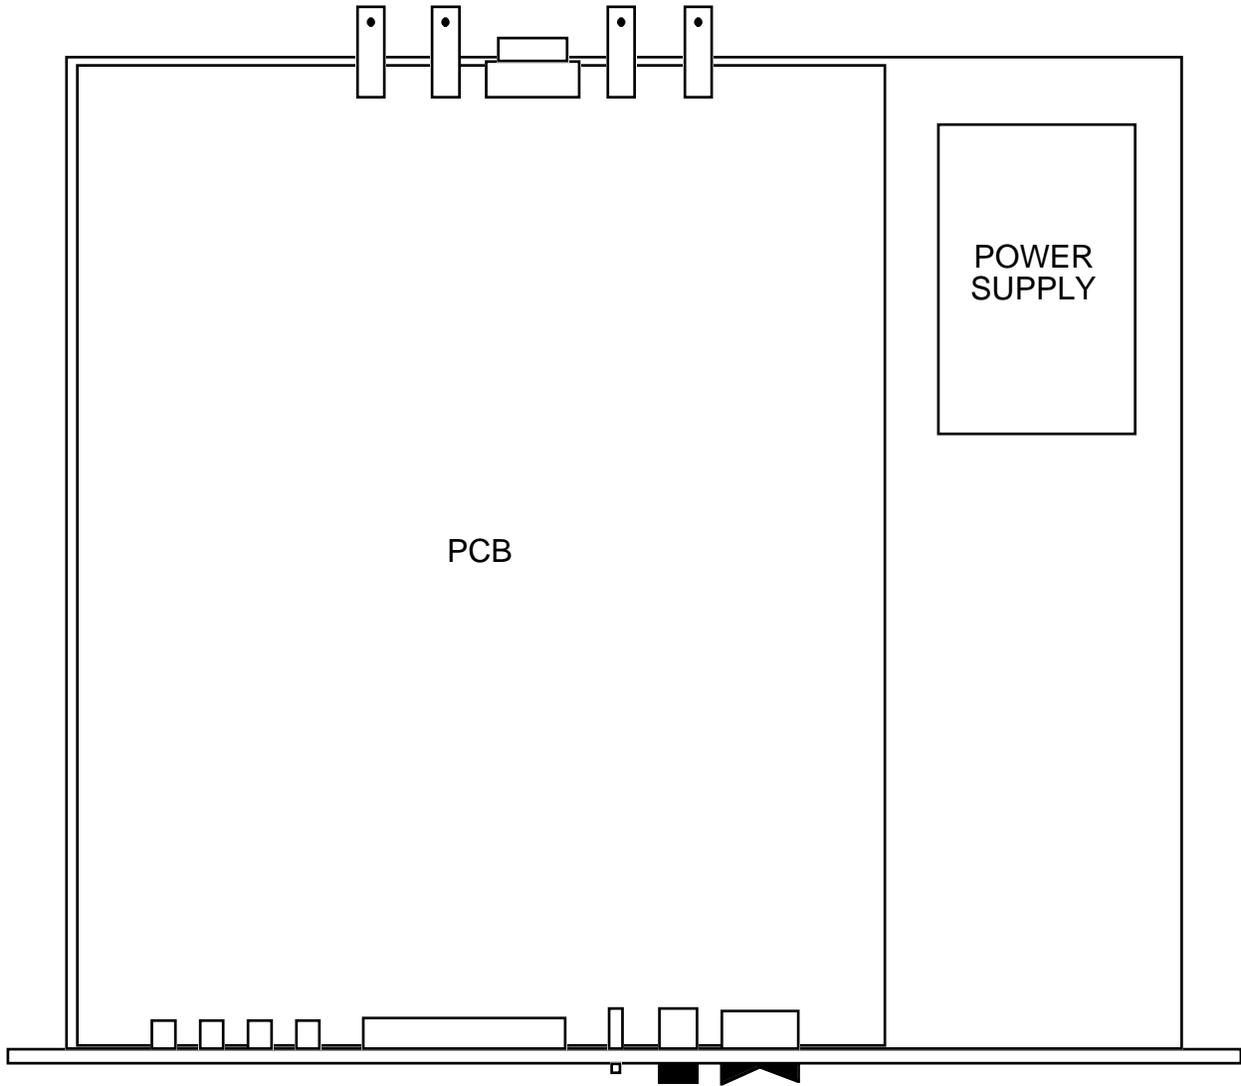

FIGURE 2.0 2083-714 Mechanical Assembly
2.1 Mechanical - The 2083-714 consists of one RF/Controller PCB housed in a 1 RU (1 3/4 inch high) by 16 inch deep chassis. A switching, ± 12 , +24, +5 VDC power supply provides power for the assemblies. The 2083-714 can be secured to a rack using the 4 holes on the front panel. Figure 2.0 shows how the 2083-714 is assembled.